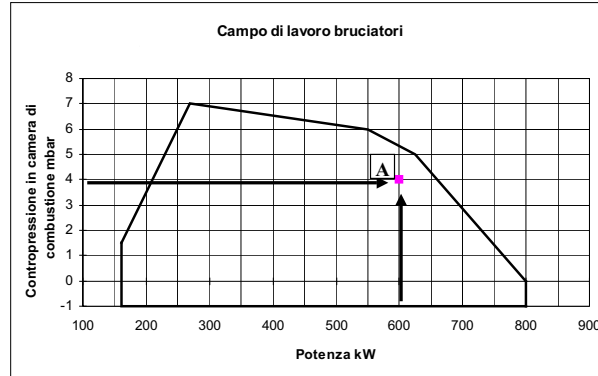

Fig. 1
In the "Performance curve" diagram (Fig. 1), draw a vertical line matching the furnace input value and an horizontal line matching the backpressure value. The burner is suitable if the intersection point A is inside the performance curve.
- two (2) gas flanges are required; they may be threaded or flanged depending on size;
**ATTENTION:** once the gas train is mounted according to the diagram on Fig. 1, the gas proving test must be performed, according to the procedure set by laws in force.